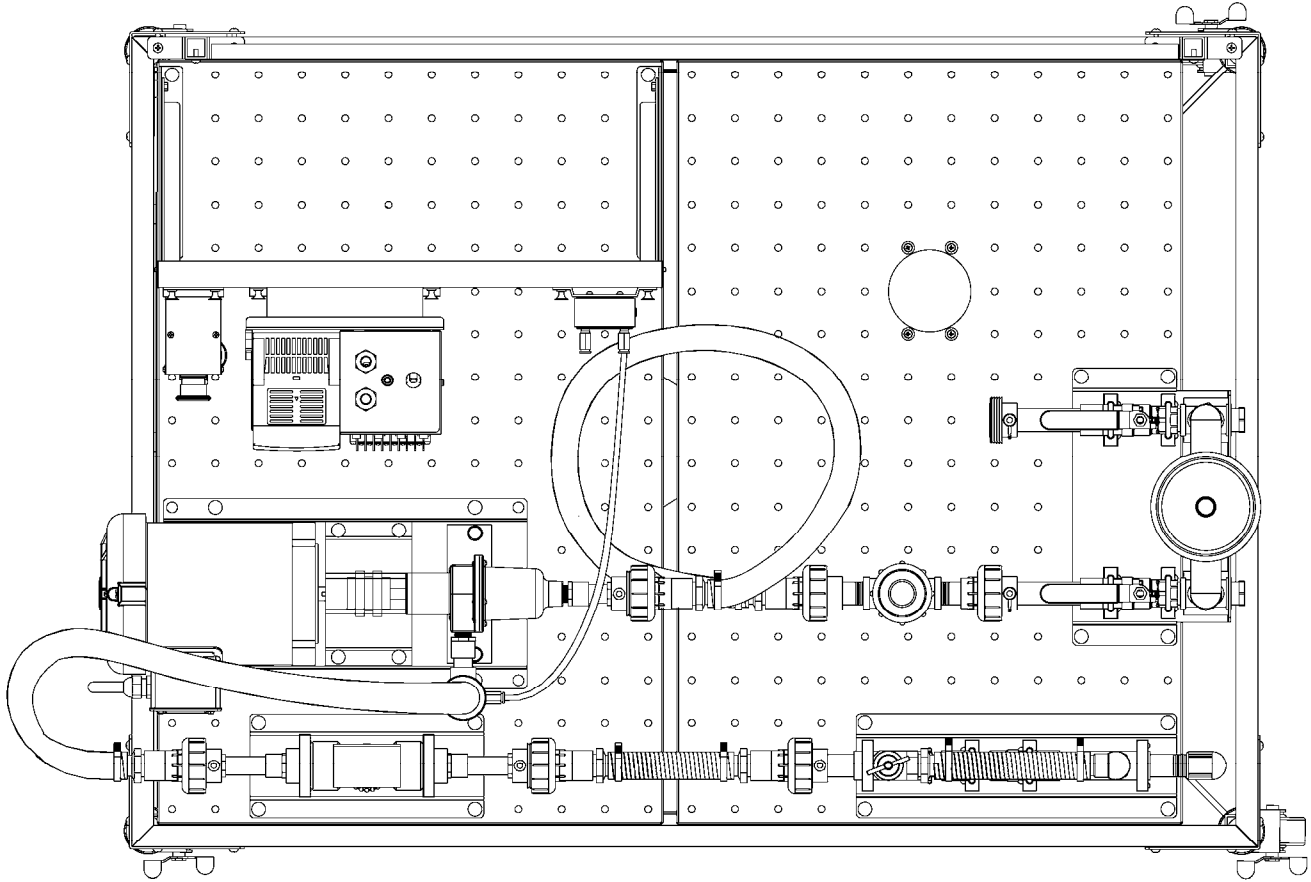

Figure 1-5. Pumping circuit using the Progressive Cavity Pump.
- 10. Set up the pumping circuit shown in Figure 1-5.